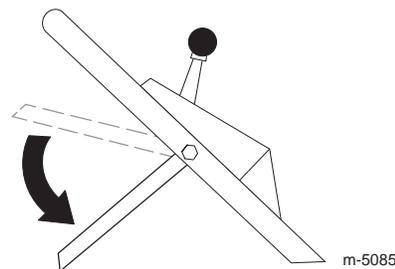

Figure 12
- Move the blade control bail down to its lowest position (Fig. 12).
3. Push the blade control bail (Fig. 12) down to its lowest position.